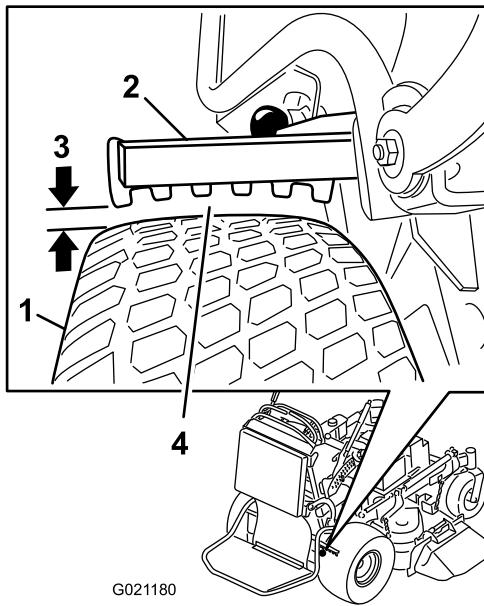

Figure 60
6. Using the side with the smallest clearance, ensure that the distance is between 3 and 6 mm (1/8 and 1/4 inches) as shown in Figure 60; refer to Adjusting the Brakes \(page 42\) if the distance is incorrect.
5. Adjust the yoke (Figure 60).